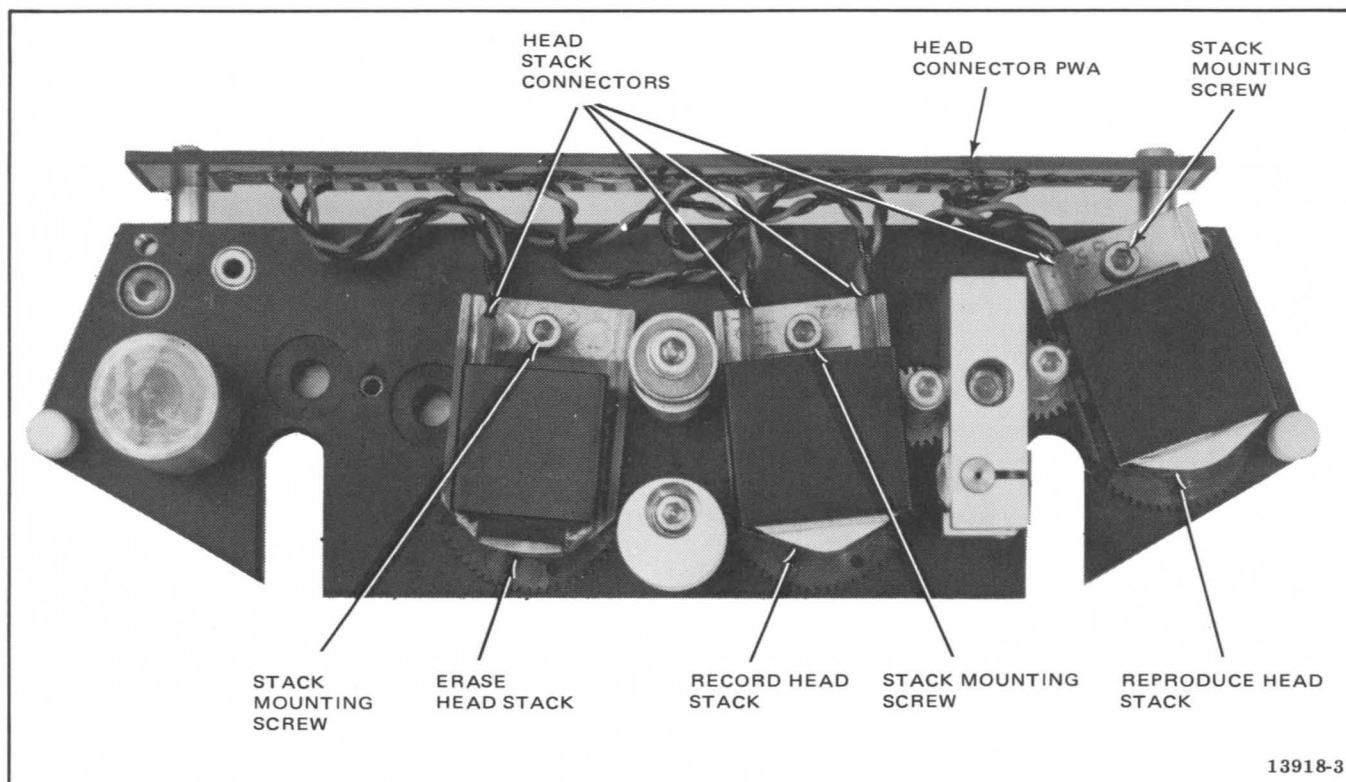

Figure 5-38. Top View of Head Assembly with Main Head Shield Removed
4. Carefully unplug the head-stack connector(s) of the head stack to be changed (Figure 5-38).
5. Remove head-stack mounting screw and spring (Figure 5-38).